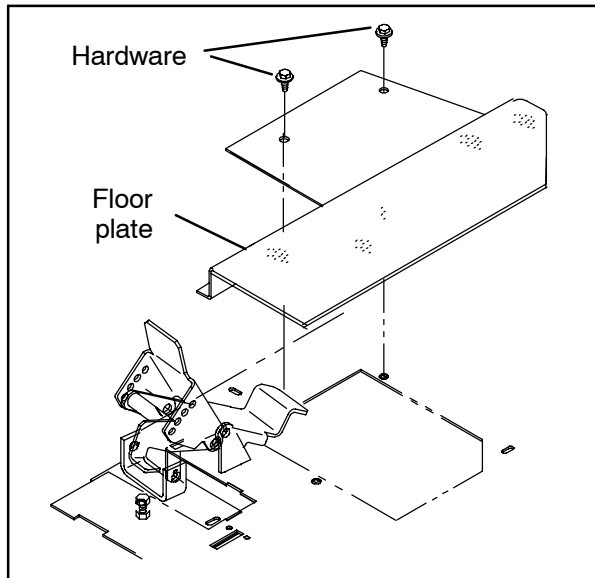

FIG. 9
20. Remove the floor plate from the operator compartment. Set the floor plate and hardware aside Refer to Fig. 9.
29. Reinstall the floor plate into the operator compartment. Refer to Fig. 9.